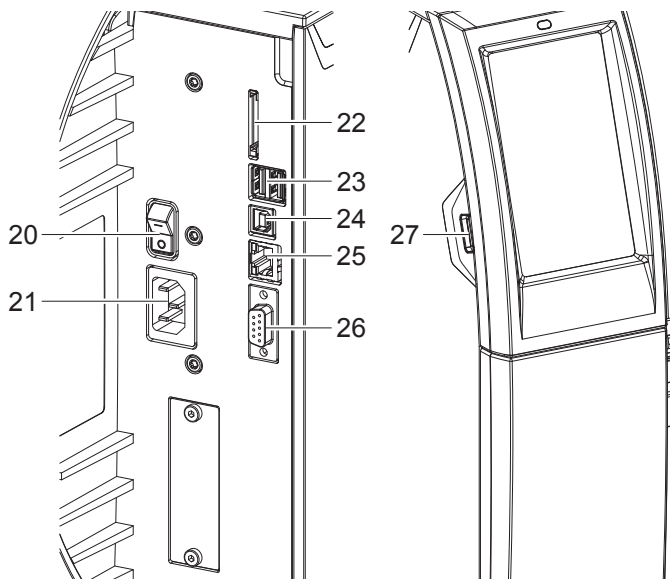

Fig. 3 Connectors
The standard available interfaces and connectors are shown in „Fig. 3 Connectors“.
2. Plug the power cable into the power connection jack (21). „Fig. 3 Connectors“
- ▶ Switch the printer on using the power switch (20) in „Fig. 3 Connectors“.